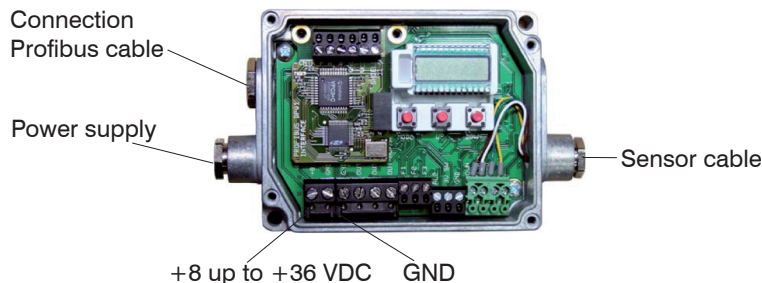

Fig. 21 Commissioning Profibus
- ➡ Open the controller and connect the power supply, see Fig. 21.